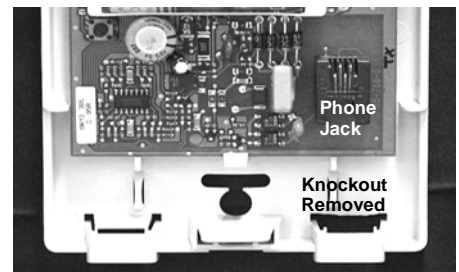

Figure 5. Knockout and Phone Jack Locations
6. Remove the right knockout on the DTIM plastic, feed the 4-conductor phone cord plug through it and connect the plug into the DTIM phone jack (Figure 5 at right).